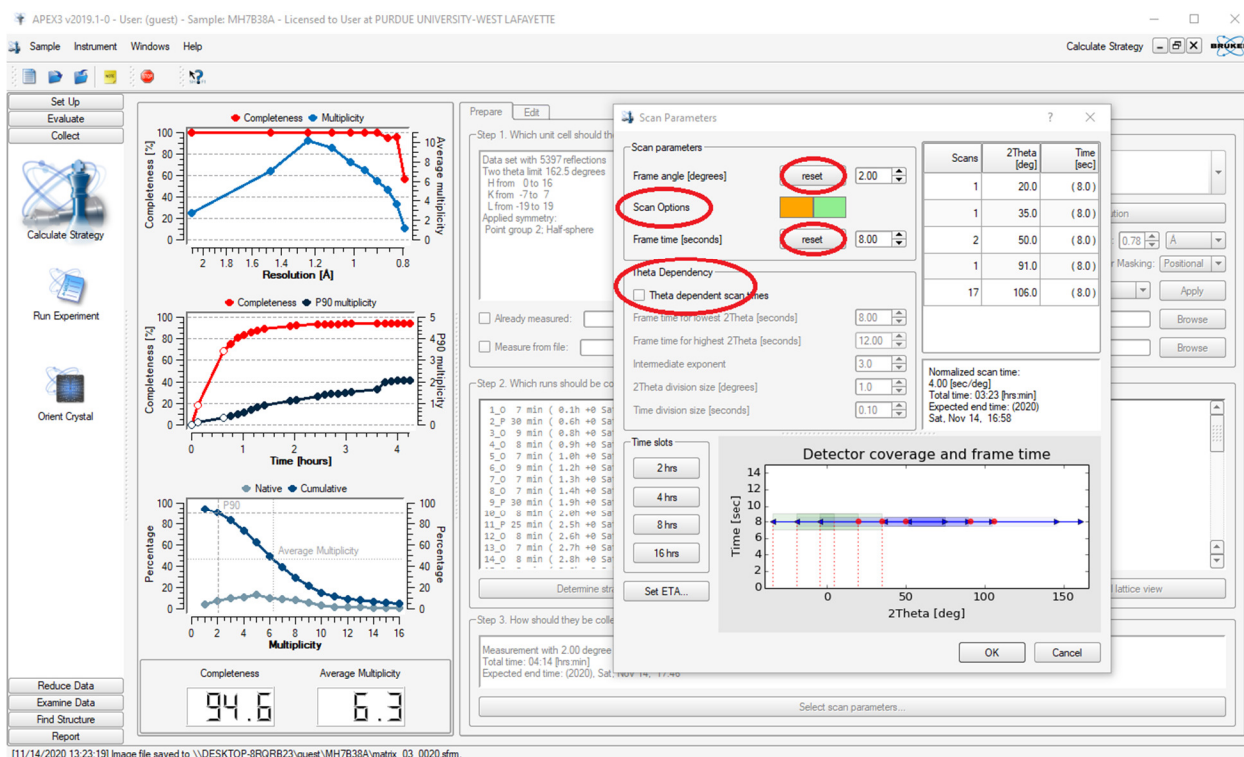

Figure 19, Strategy Window with Scan Parameters sub-window
- Under Step 3., click **<Select Scan Parameters>**. A popup window will emerge. Click the two **<reset>** buttons for “Frame angle” and “Frame time” to obtain (usually reasonable) suggested values (Fig 19).